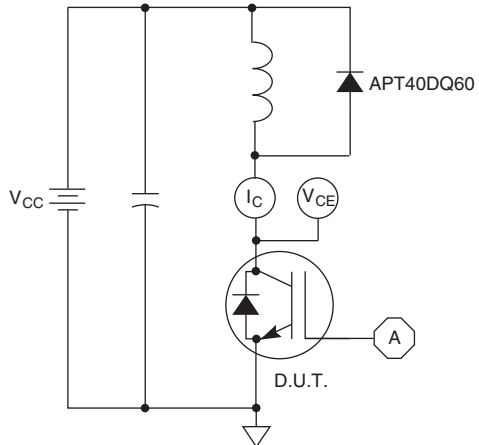

Figure 21, Inductive Switching Test Circuit
- ① Repetitive Rating: Pulse width limited by maximum junction temperature.
- ② For Combi devices,  $I_{ces}$  includes both IGBT and FRED leakages
- ③ See MIL-STD-750 Method 3471.
- ④  $E_{on1}$  is the clamped inductive turn-on energy of the IGBT only, without the effect of a commutating diode reverse recovery current adding to the IGBT turn-on loss. Tested in inductive switching test circuit shown in figure 21, but with a Silicon Carbide diode.
- ⑤  $E_{on2}$  is the clamped inductive turn-on energy that includes a commutating diode reverse recovery current in the IGBT turn-on switching loss. (See Figures 21, 22.)
- ⑥  $E_{off}$  is the clamped inductive turn-off energy measured in accordance with JEDEC standard JESD24-1. (See Figures 21, 23.)
- ⑦  $R_G$  is external gate resistance, not including  $R_{G(int)}$  nor gate driver impedance. (MIC4452)
- ⑧ Continuous current limited by package lead temperature.